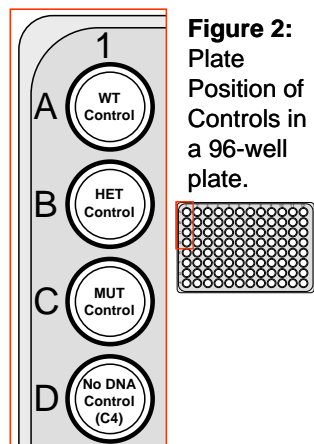

Figure 2:
Note: Controls must be placed in the correct wells for proper data interpretation. Refer to Figure 2.
- Dispense 10 μL of the appropriate control or sample (genotype-specific controls and all samples are diluted (See Step 3) Control 4 (NDC) is undiluted) to bottom of the appropriate well of the reaction plate (See Figure 2). Mix by pipetting up and down 3 – 5 times upon addition to ensure reaction homogeneity. Change pipette tips between every addition.